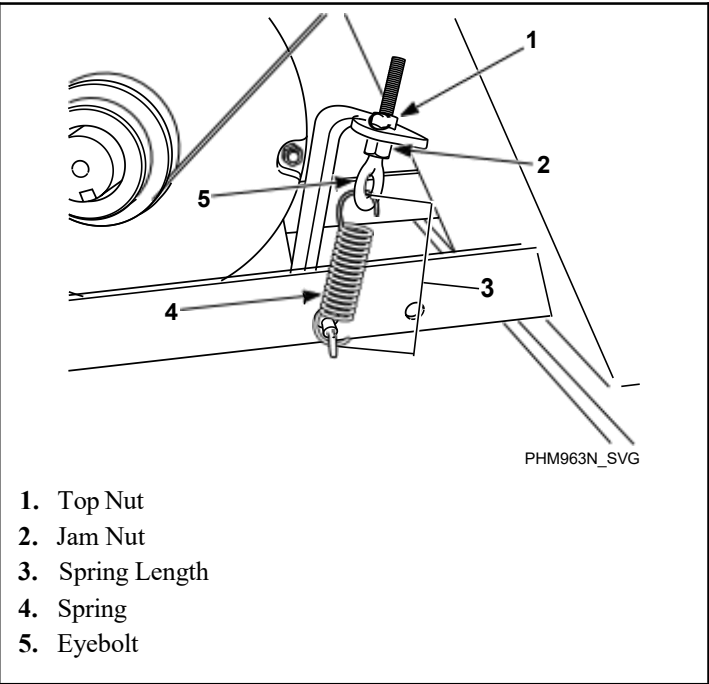

Figure 66
**NOTE: Basket pulley must be rotated three (3) full turns before assessing belt tension after every adjustment.**
- **Frequency Gauge.** Tighten eyebolt top nut until the correct frequency (refer to *Table 47*) is obtained mid-span. Torque jam nut to spring bracket to  $20.6 \pm 2$  ft.-lbs. Refer to *Figure 66* .
Torque jam nut to spring bracket to  $20.6 \pm 2$  ft.-lbs. Refer to *Figure 66* .
- **Spring Length.** Tighten eyebolt top nut until the spring measures the correct distance between the hooks. Refer to *Table 46*. Torque jam nut to spring bracket to  $20.6 \pm 2$  ft.-lbs. Refer to *Figure 66* .
- **Maintain Tension During Belt Removal.** If proper tension is achieved, tape the jam nut in place and loosen eyebolt top nut to release the belt. Replace belt and retighten eyebolt top nut back to jam nut position. Refer to *Figure 66* .
- b. **20-60 Models:** verify the belt is centered on the basket pulley within one (1) rib. **80-100 Models:** verify the belt is within the allowable distance of .04 inch [1 mm] between the belt and the edge of basket pulley.